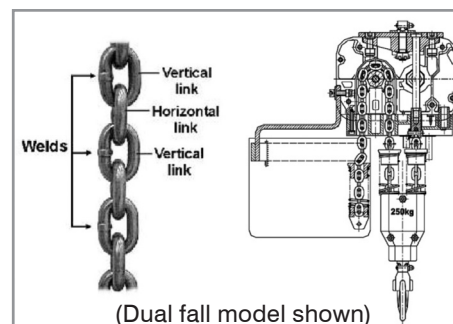

Figure 14
7. Check that the chain is not twisted at the bottom hook. All welds should face the same direction (see Figure 14). For hoists with two or more falls of chain, make sure the bottom hook is not turned over. This may cause the chain to twist.
4. Using a C-link, connect the new chain to the old chain. Be sure vertical link welds face away from load sprocket (see Figure 14).